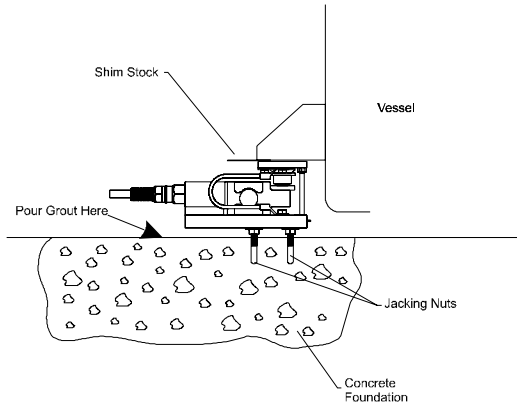

FIG. 12: ADJUSTING FOR LEVEL WITH SHIM STOCK
- Step 5. To adjust the level of the top plate use shim stock between the top plate and the support bracket. (See Fig. 12)